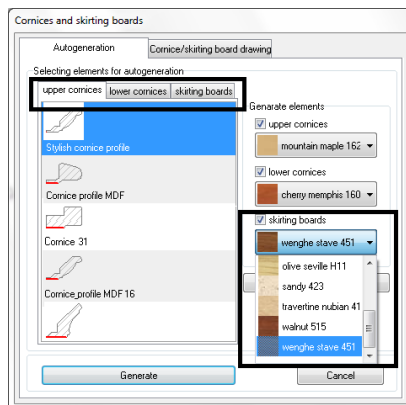

Fig. 233 – selection of cornices for autogeneration
- selecting all types results in displaying all tabs with the appropriate profiles for all types: **upper cornices**, **lower cornices**, **skirting boards** (Fig. 233);
- select profiles in each tab, choose colours for each type (Fig. 233) and press the **Generate** button;